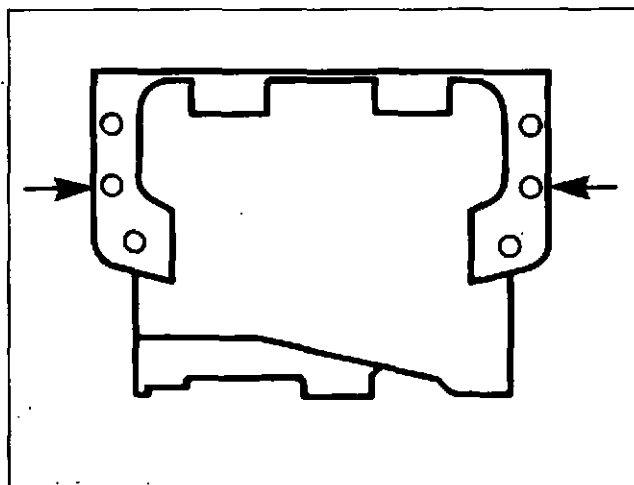

Fig. 14-62. Install Two Capscrews Into The Butress End Of The Oil Pan.
- a. Install and tighten the middle capscrew in each of the two buttresses on the flywheel housing, Fig. 14-62.